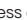

Fig. 83 On the driver's door: button to open and close the rear lid.
- **OR:** pull the  button on the driver door upwards **»» Fig. 83**. The button also works when the ignition is switched off.
- **OR:** pull the  button on the driver door upwards **»» Fig. 83**.